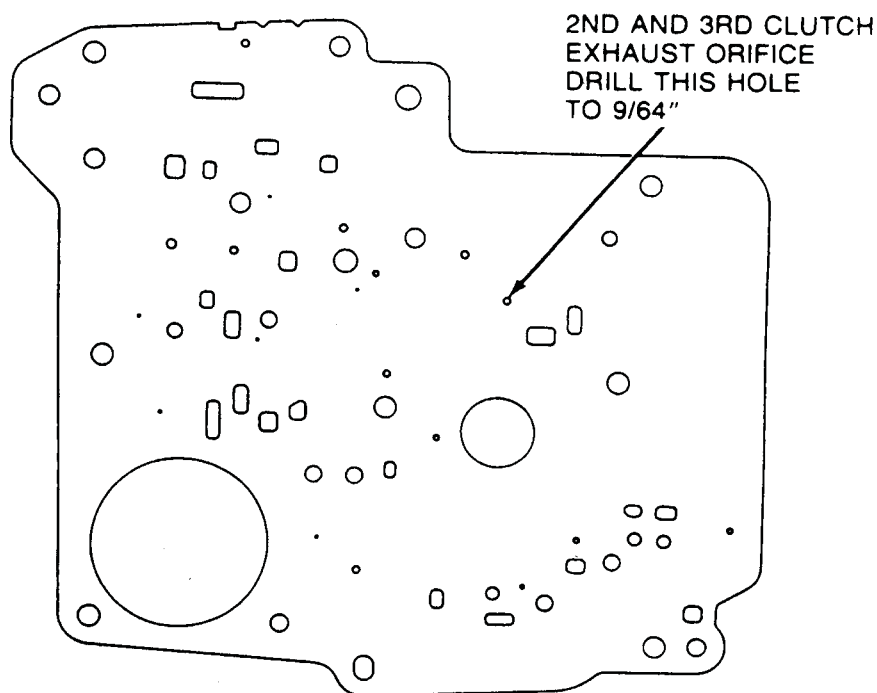

Figure 131
**CORRECTION:** Inspect the spacer plate for the intermediate band exhaust hole as shown in Figure 131, and enlarge to 9/64" if necessary.